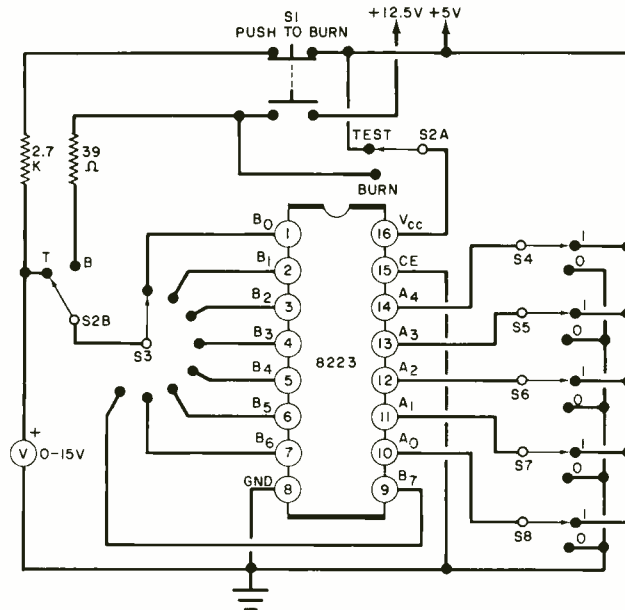

Fig. 2. In this programming setup, both power supplies must be regulated. Once PROM is programmed, its memory can be checked as described in the text.
**How to Program a PROM.** The 8223 PROM used in the applications described is shipped with all of its outputs at a logic-0 level. This means that all of its on-chip fuses are intact. If a logic 1 is to be written into the PROM's memory, the fuses must be blown. The procedure for blowing selected fuses is called programming. It can be performed with the circuit shown in Fig. 2. The +5- and +12.5-volt power supplies must be regulated. Switch  $S1$  is a two-circuit push-button switch, with one set of contacts normally open and the second set normally closed. Switch  $S2$  is a dpdt slide or toggle switch, while switch  $S3$  must be a non-shorting rotary switch with eight or more positions.
After wiring together the Fig. 2 circuit, program the PROM as follows: